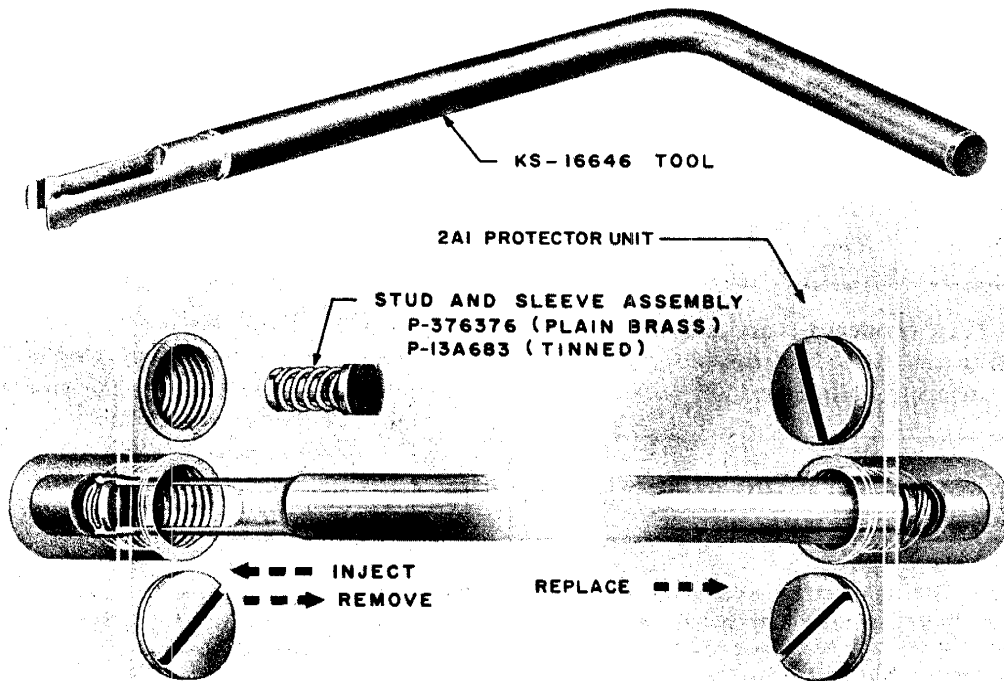

Fig. 5 — KS-16646 Tool
**4.02** The KS-16646 tool is used to remove damaged stud and sleeve assemblies and to insert the replacement (Fig. 5). Replacement should not be attempted on 106CA or 111A protectors.